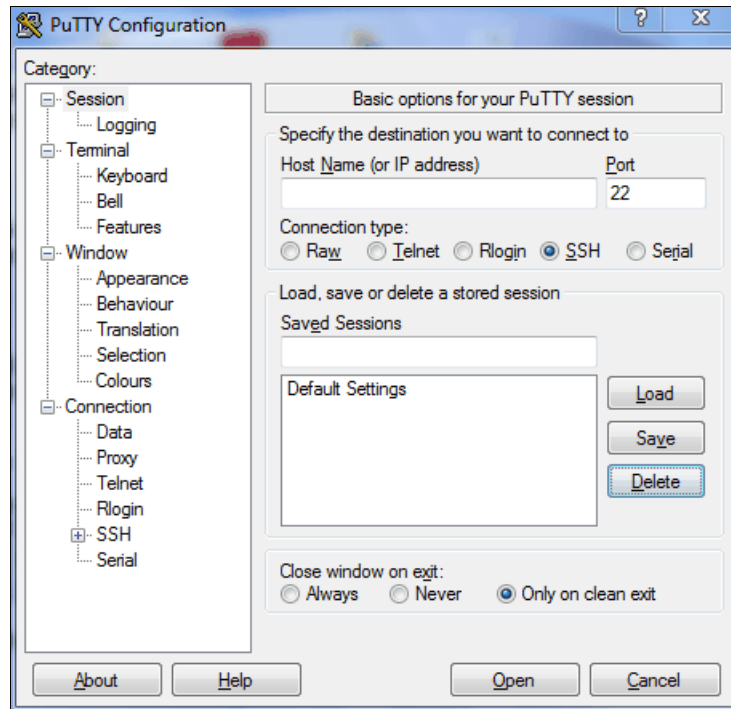

Figure A-9 PuTTY
1. Start PuTTY, as shown in Figure A-9.
- From the Category pane on the left side of the PuTTY Configuration window, click **Session** to return to the Session view, as shown in Figure A-9 on page 657.